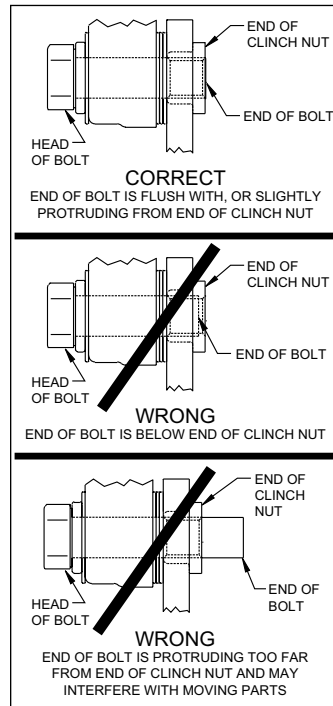

Figure 4. Clinch Nut Engagement Diagram
CAUTION: All mounting bolts must fully engage clinch nuts. Be sure to check that all bolts are either flush or protruding through flanged side of clinch nut after shimming, Figure 4.
STEP 11 **NOTE:** This kit contains distinct right and left hand calipers that must be mounted in a specific direction, as described below. Lubricate the caliper mounting studs (23) with lightweight oil. Initially place two .030" thick shims (28) on each stud (23) between the caliper and the bracket, as shown in Figure 1 and Photo 10. Mount the caliper (27) onto the bracket (22) using lock nuts (29) and washers (30), Figure 1. Temporarily tighten the lock nuts. Ensure that the caliper is mounted so the largest pistons are at the rotor exit end of the caliper, in relation to the forward rotation of the rotor. View the rotor through the top opening of the caliper. The rotor should be centered in the caliper, Photo 11. If not, adjust by adding or subtracting shims (26) on bolts (24) between the radial mount caliper bracket (22) and the bracket assembly (1). Always use the same amount of shims on each of the two mounting bolts. **NOTE:** The end of each bolt (24) must be flush with or slightly protruding from the head of the clinch nut of bracket assembly as shown in Figure 4. If necessary, place spare shims between washer (25) and radial mount caliper bracket (22) to achieve the proper clinch nut engagement. Once the caliper alignment is correct, remove the bracket mounting bolts (24) one at a time, apply red *Loctite*® 271 to the threads, and torque to value shown in Figure 1.